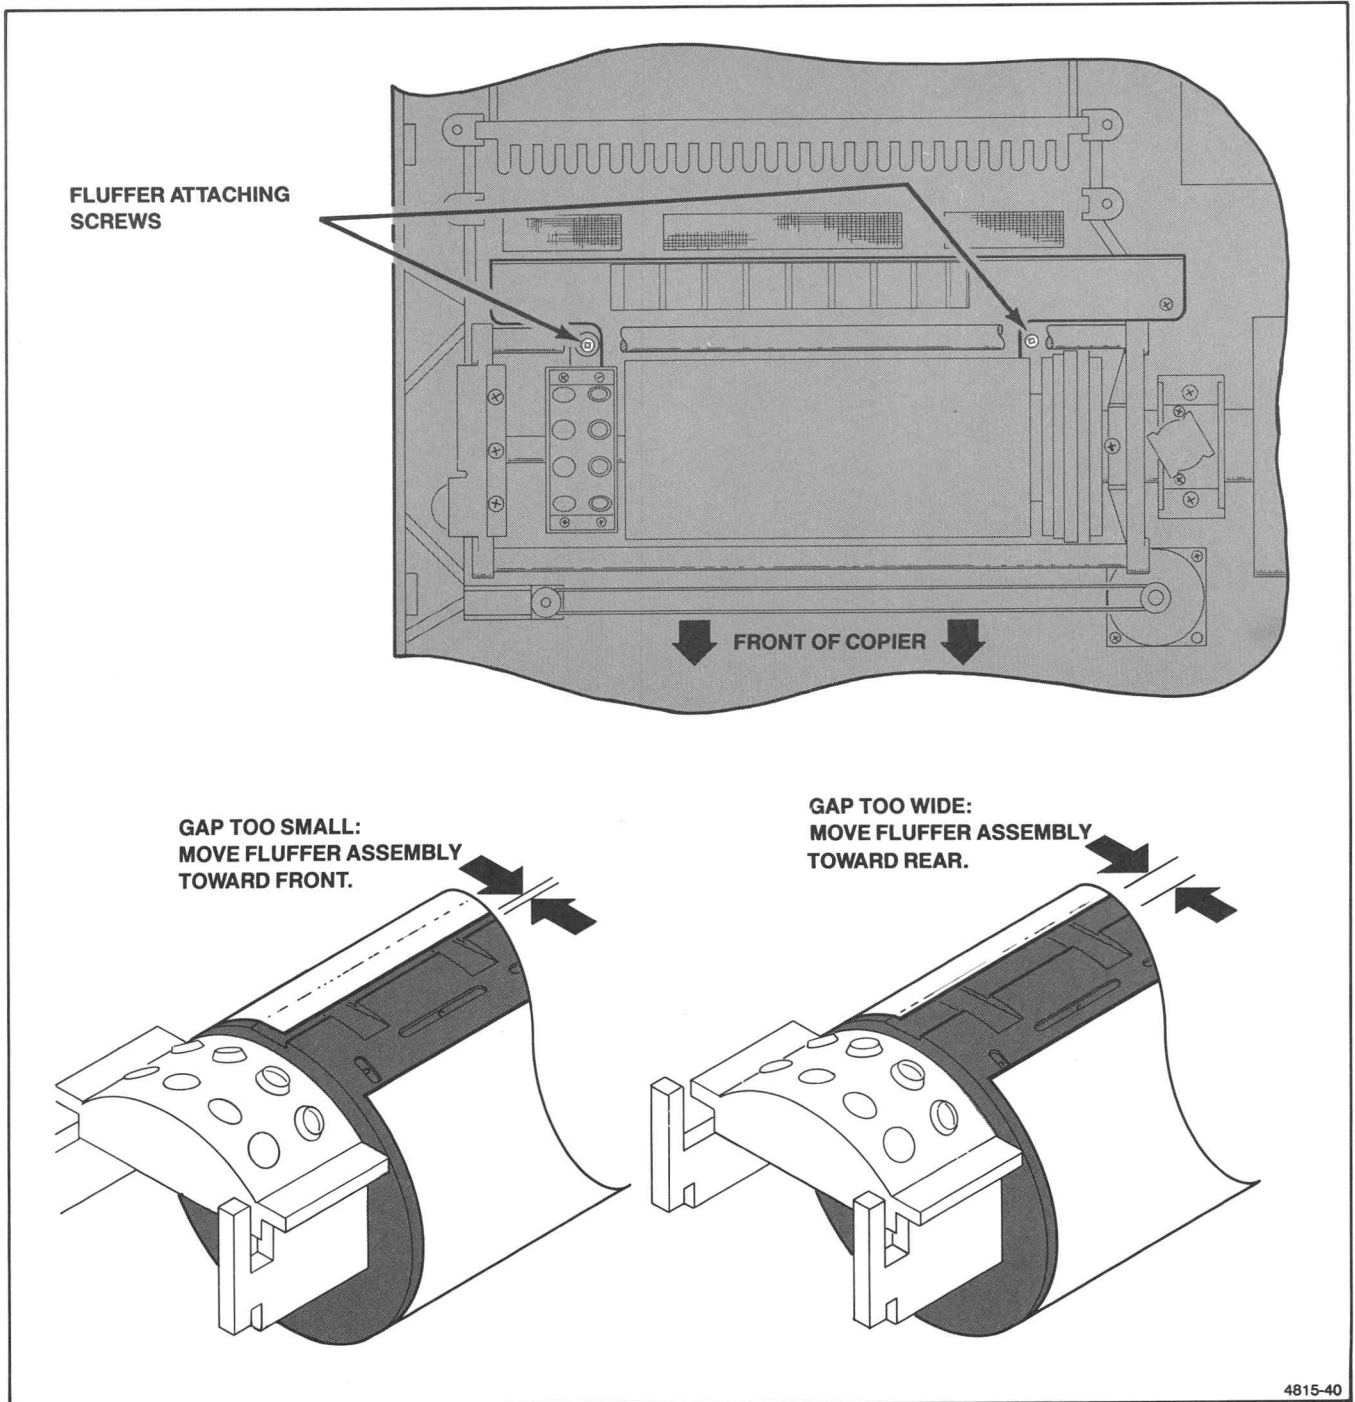

Figure 5-5a. Fluffer/Media Loading Adjustment.
6. If adjustment is necessary, the head carriage must be moved manually to access the left fluffer attaching screw. Loosen the fluffer attaching screws shown in Figure 5-5a. Grasp the front of the media input tray and move it in accordance with the illustration.
- b. **If the gap is too wide**, loosen the two screws shown in Figure 5-5a, move the fluffer assembly toward the rear of the copier, and tighten the screws. Press the PURGE switch. This will unload the paper on the drum and repeat the media load cycle. Check the gap for correct spacing (.020").
- c. **If the gap is too narrow**, loosen the two screws shown in Figure 5-5a, move the fluffer assembly toward the front of the copier, and tighten the screws. Press the PURGE switch. This will unload the paper on the drum and repeat the media load cycle. Check the gap for correct spacing (.020").